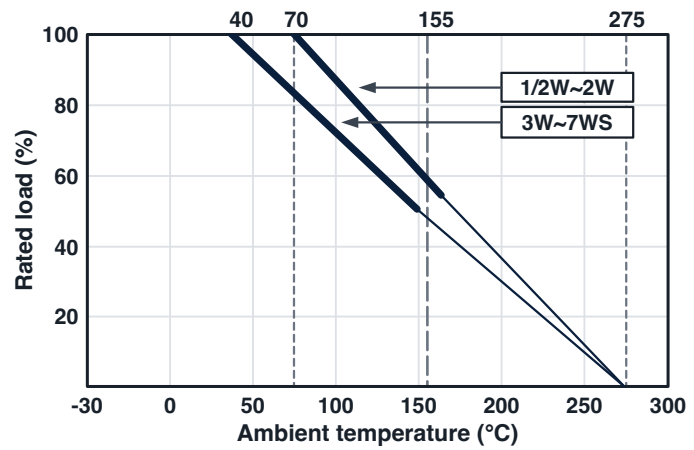

Fig. 1: Derating curve ⑦
The rated power is the maximum load power for continuous use at ambient temperatures up to 70°C, while the mechanical and electrical performance requirements are met ⑥. Above this ambient temperature, the power is derated according to the derating curve (Fig. 1).